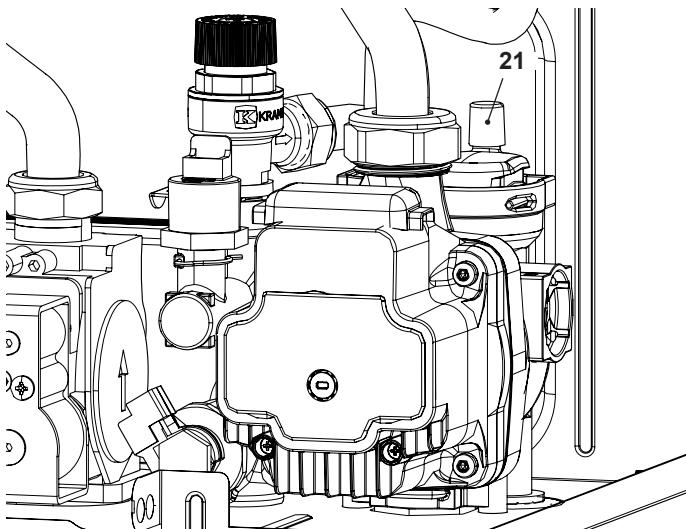

Figure 2.12
- 4 To make draining easier, lift the plug "21" of the automatic relief valve in Figure 2.12.